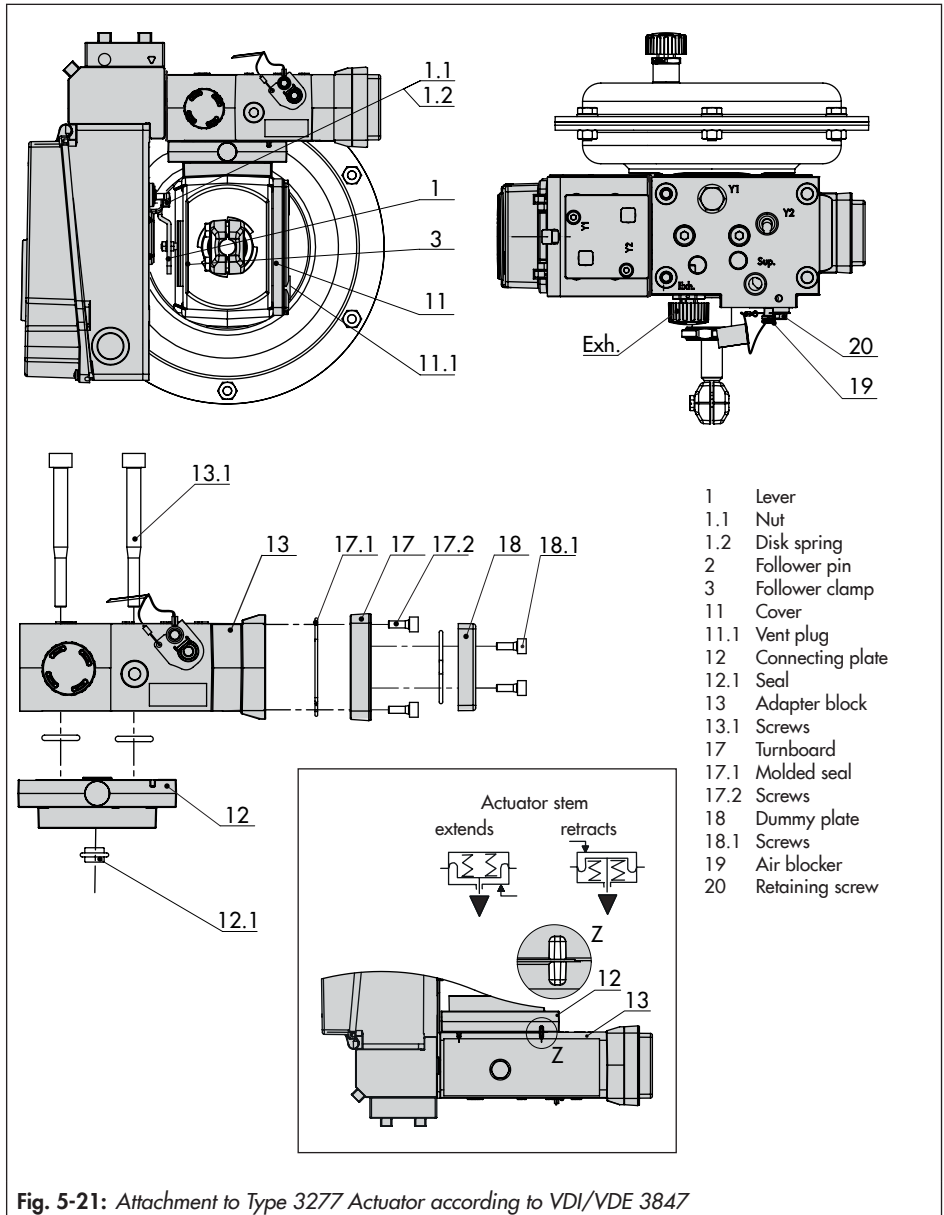

Fig. 5-21: Attachment to Type 3277 Actuator according to VDI/VDE 3847
→ See Fig. 5-21
11. Fasten the positioner to the adapter block (13) using the two fastening screws (6.3). Make sure the molded seal (6.2) is properly seated (see Fig. 5-21).
12. Mount cover (11) on the other side.